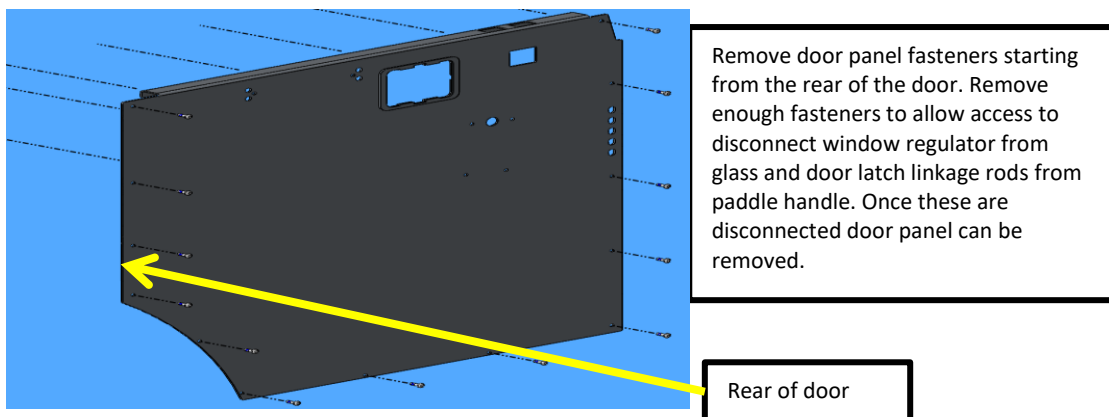
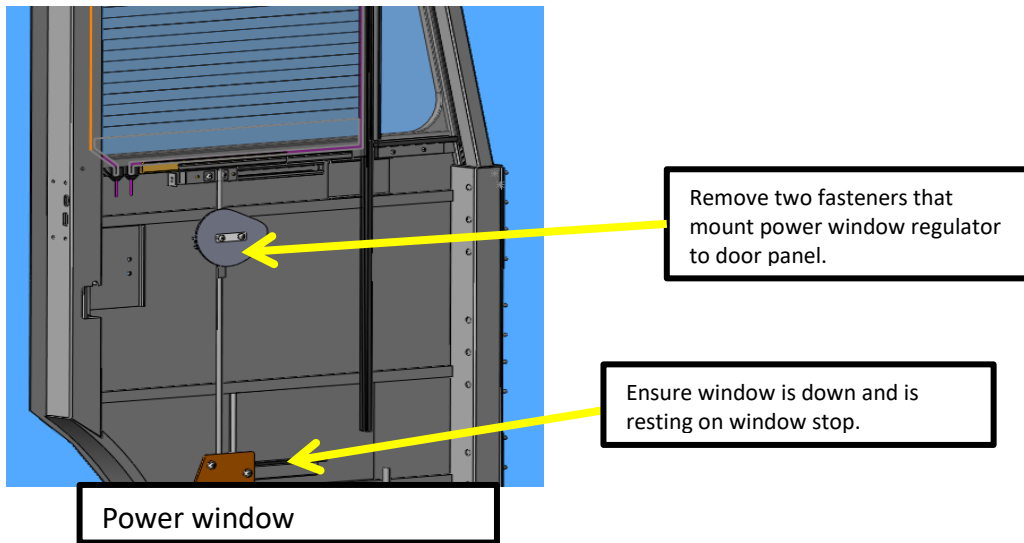
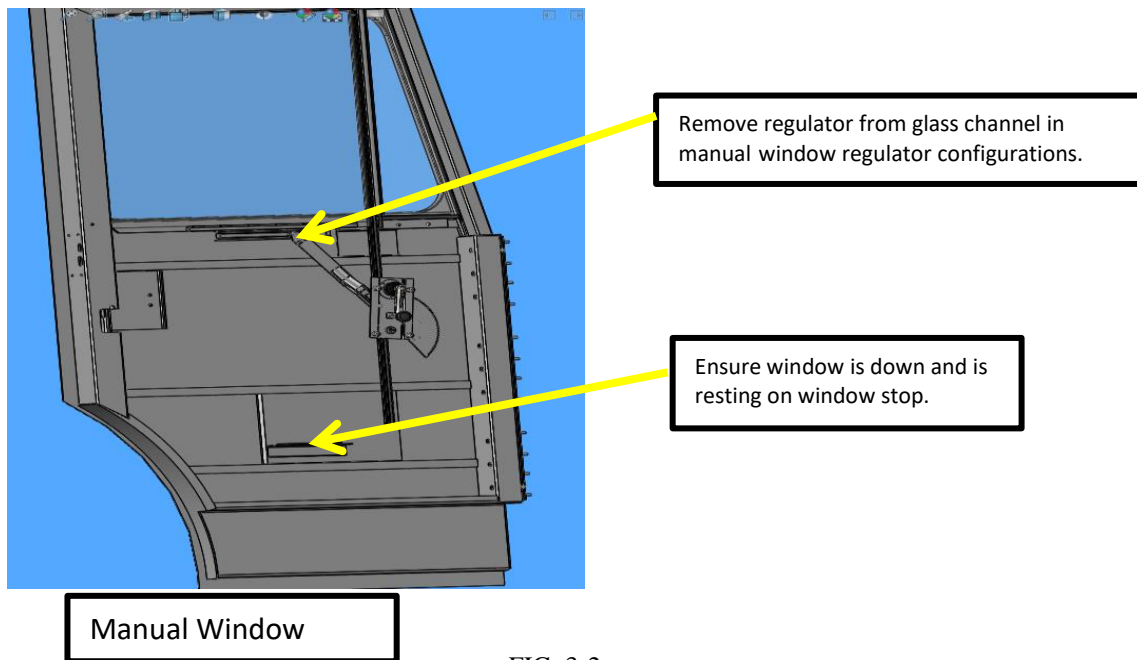

FIG. 2-1
FIG. 3-1
FIG. 3-2
2. Remove door panels. While removing the door panels the window regulator will need to be disconnected from the door glass. Refer to FIG. 2-1, FIG. 3-1 and FIG. 3-2.